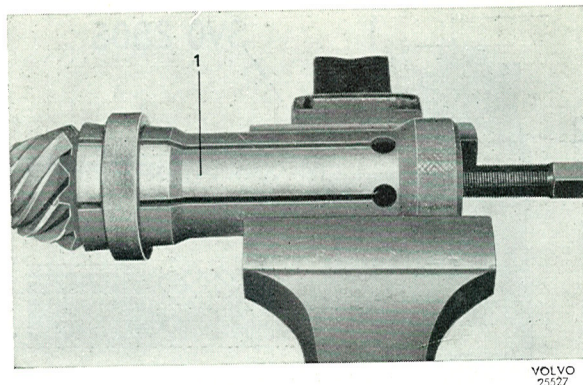

Fig. 4-97. Removing the rear pinion bearing
11. If necessary, pull off the rear bearing from the pinion with puller SVO 2392, see Fig. 4-97. The puller is fitted in the following way: